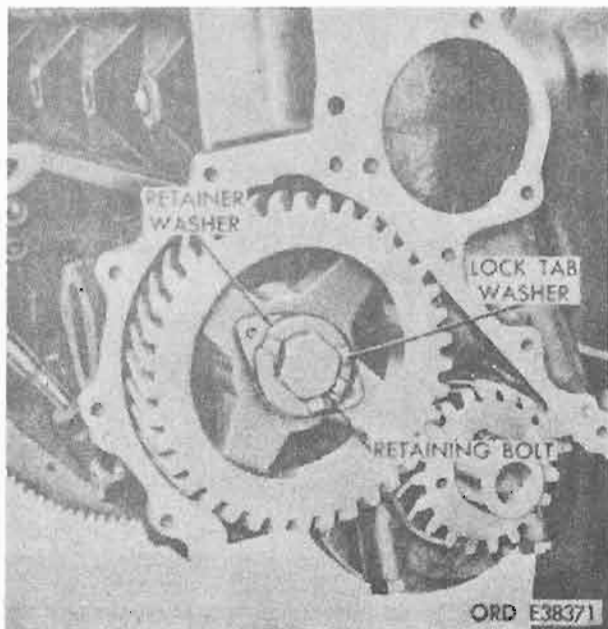

Figure 4-104. Camshaft gear retaining bolt.
e. *Camshaft Gear Retaining Bolt*. Straighten tangs of lock tab washer securing camshaft gear retaining bolt and remove bolt, lock tab, and retainer washers. It may be necessary to hold crankshaft to keep it from turning (fig. 4-104).